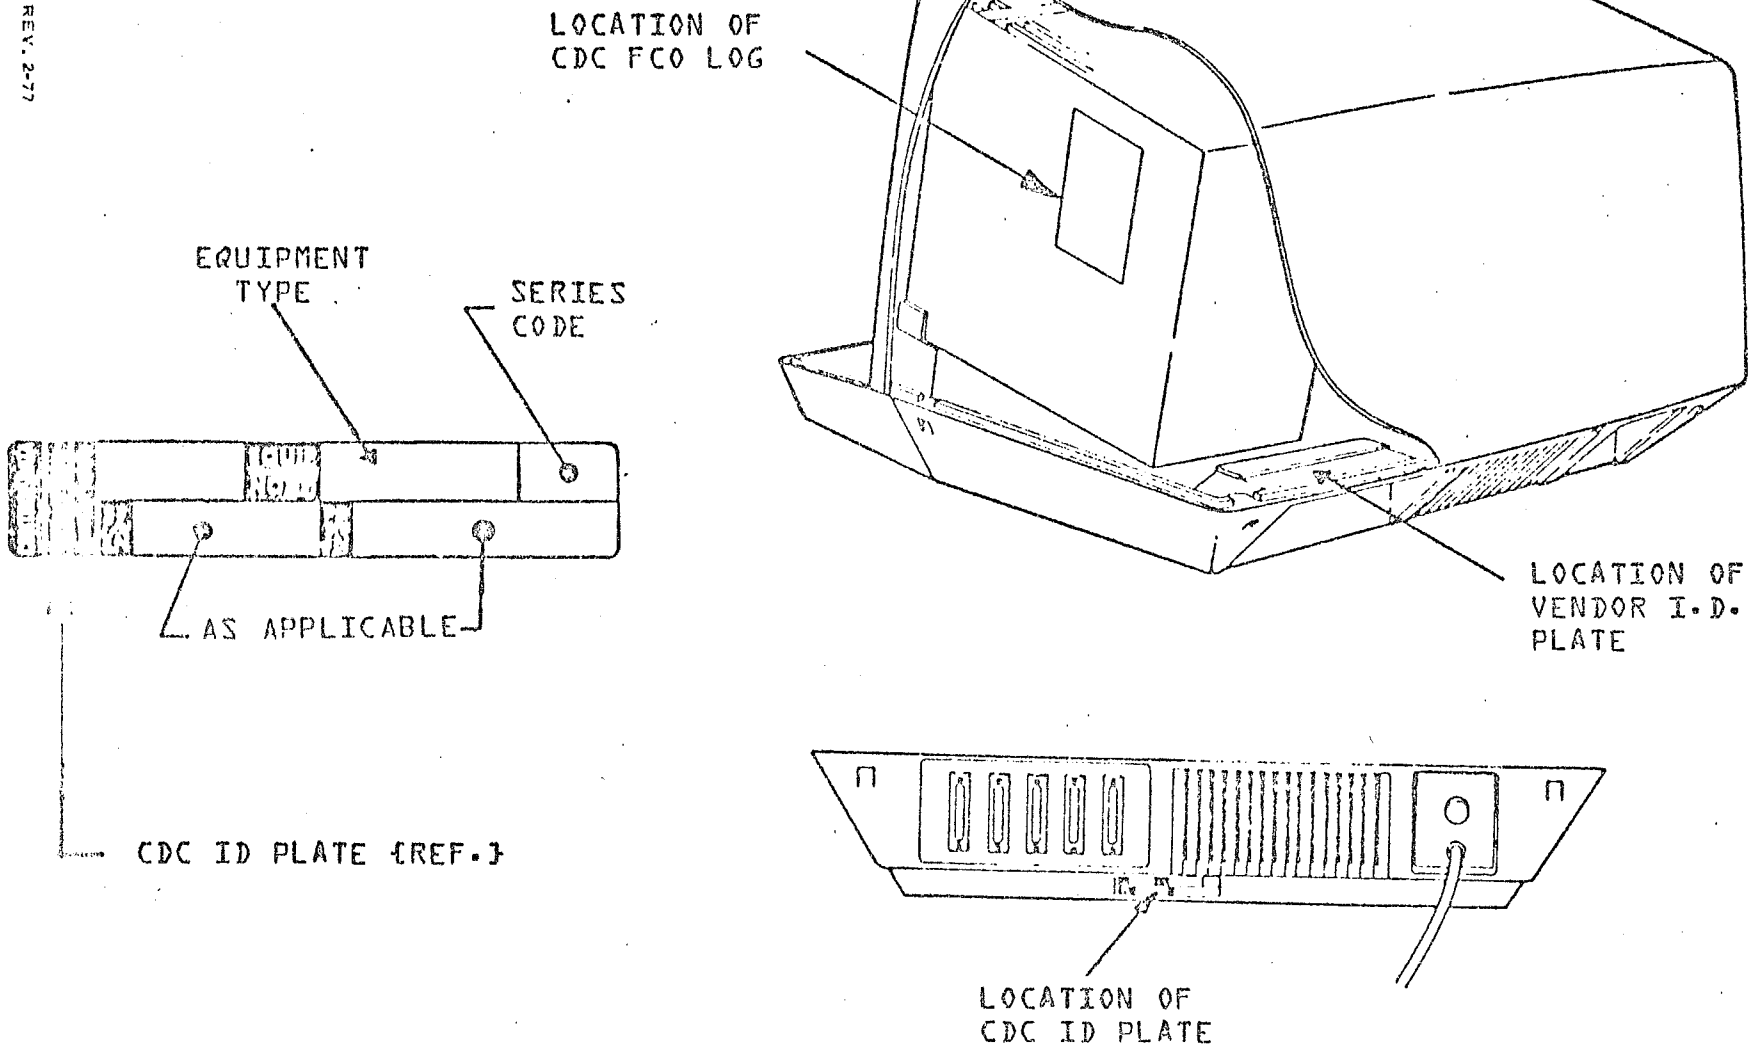

Figure B-2
- B.1 Vendor ID Plate — The vendors ID Plate shall be located inside the display as shown in Figure B-2. This ID Plate will have the following on it:
- B.2 Control Data ID Plate — This ID Plate will be attached as shown in Figure B-2. This ID Plate will be supplied by Control Data to the vendor. This plate will have all required data on it before shipment to vendor.